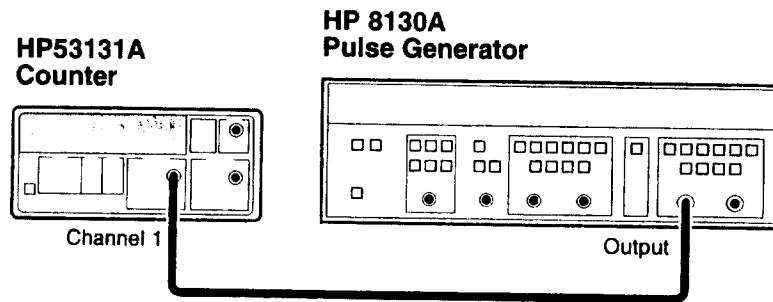

Figure 2-3. TI Calibration Setup
- 3 Connect the HP 8130A Pulse Generator output to Channel 1 of the Counter as shown in Figure 2-3.